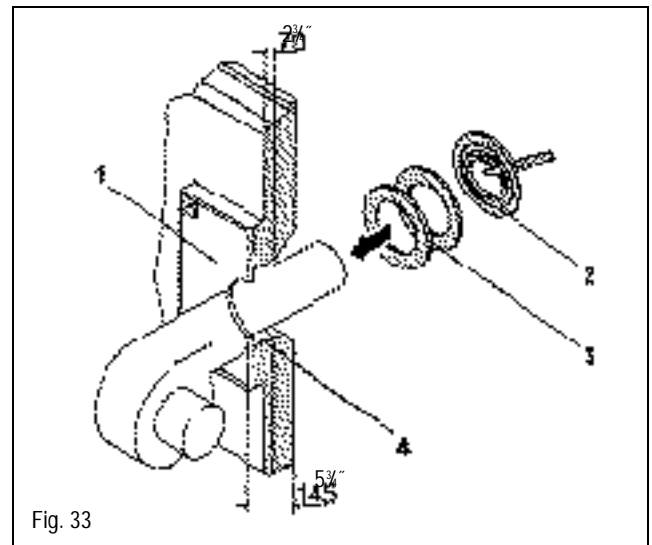

Fig. 33
- Cut the furnished burner door mounting plate (1) per specifications supplied by burner manufacturer. Burner plate will be cut to specs if burner is purchased through Buderus Hydronic Systems (Fig. 33).
- Open burner door. Cut supplied blast tube insulation ring (2) to match the blast tube diameter (Fig. 33).
- Slide the ring (3) around the blast tube (4) to fill out the space between blast tube and burner door insulation.